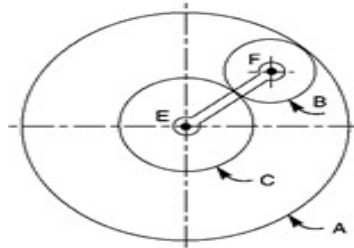

Fig. 12. b
- b) An epicyclic gear consists of three gears A, B, and C as shown in Figure 12. b. Gear A has 72 internal teeth and Gear C has 32 external teeth. Gear B meshes with both A and C and is carried on an arm EF which rotates about the center of A at 18 r.p.m. If gear A is fixed, measure the speed of gears B and C. 13 K3 CO2